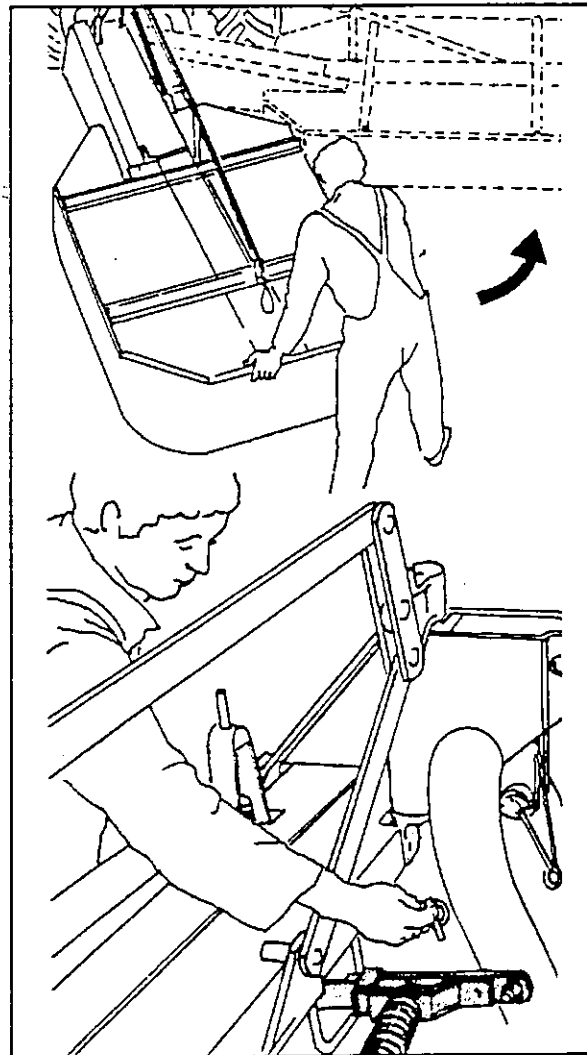

fig. 4-12
1. Release the transport locking device by pulling on the rope loop, gripping the outer end of the mower support beam and swinging it around (fig. 4-12).
2. Stand behind the mower, engage the main strut and lock with clevis pin (fig. 4-12).